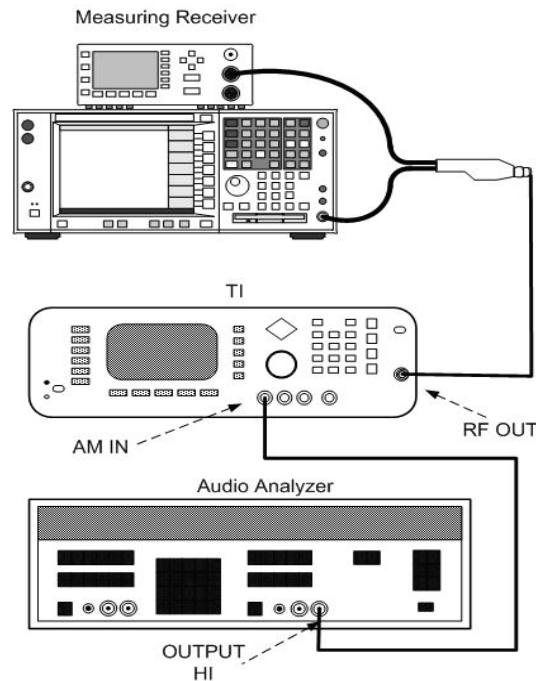

Figure 5. Amplitude modulation hook-up.
- (1) Connect equipment as shown in figure 5.